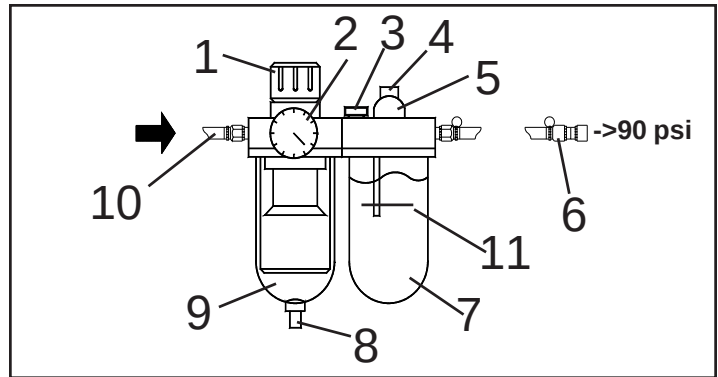

Figure 3-1
- Connect the FRL with the machine connection using a quick-release coupling (6, figure 3-1).
- Make a connection to local compressed air supply using a **3/8" air line** (10, figure 3-1).
- Open oil filler cap and lubricator (3, figure 3-1).
- Fill the lubricator with oil up to the mark on the inspection glass (7, figure 3-1).
- Turn the oil dosage screw on the FRL to the closed position (4, figure 3-1).
- Unscrew the oil dosage screw sufficiently so that after 50 cycles one drop of oil drops into the inspection glass (4, figure 3-1).
- Push the dump lever (8, figure 3-1) to the side.